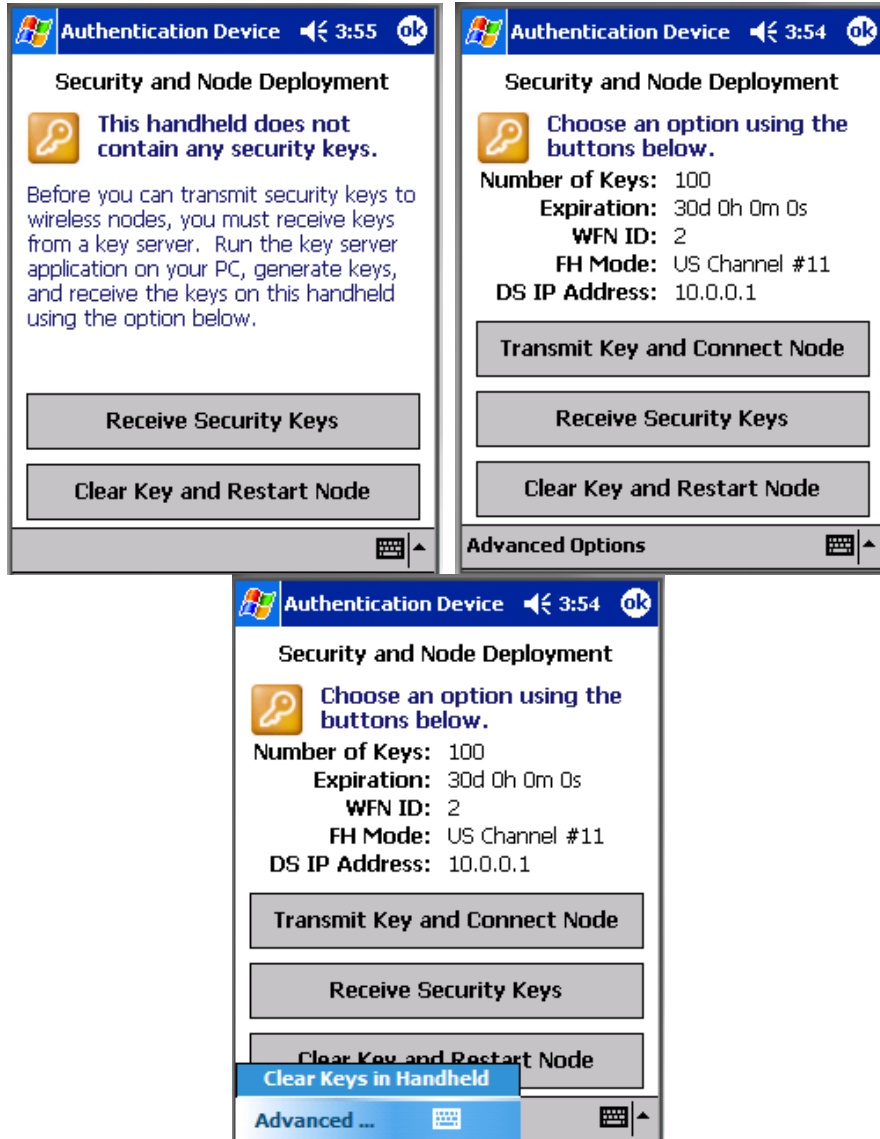

Figure 10 Security and Device Deployment
4	Unplug cable from potentiometer (4) to Jack J2 on battery board (see Figure 10), by compressing the locking clip and pulling outward.
7	<p>If battery holder is to be completely removed, use tweezers or needle nose pliers to carefully unplug the lower end of the antenna jumper cable from the right angle connector on the antenna cable. See Figure 10.</p> <p>If battery holder is not to be completely removed, place a clean antistatic bag or equivalent, between the battery assembly and the housing.</p>
8	Remove the old batteries (7) from the battery holder. If needed, pry out the batteries by using a slotted screwdriver as a lever in the holder's side slots. See Figure 10.
9	Install batteries (7) as follows to avoid damage to the batteries and holder:  Do not attempt to bend the battery hold down tabs upward. Insert the battery negative end under the hold-down tab, at an angle, and against the end of the spring. Simultaneously move the negative end of the battery into position, compressing the spring, and angle the positive end into the holder. See Figure 10.  Repeat this process for the second battery.
11	Plug cable from potentiometer (4) into Jack J2 on battery board. Note that the potentiometer cable goes to the outside of the antenna cable. See Figure 10.